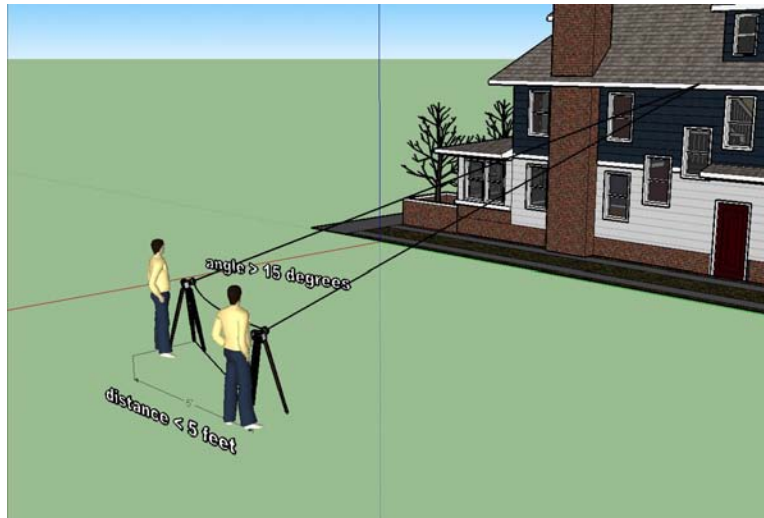

Figure 3.3: Guideline for taking consecutive pictures.
- The distance and angle between consecutive images should be less than five feet and greater than 15 degrees, respectively, as shown in Fig. 3.3. Keep in mind that taking more photos is better than not having enough photos.